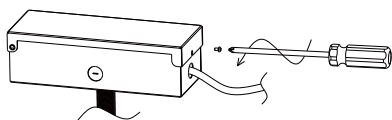
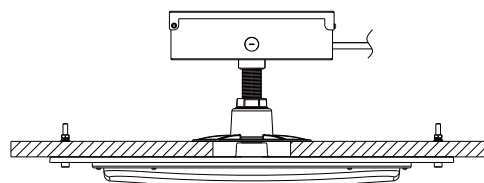

Figure 9
Figure 10
9. Finally, assemble the driver box. (Figure 9) (Figure 10)